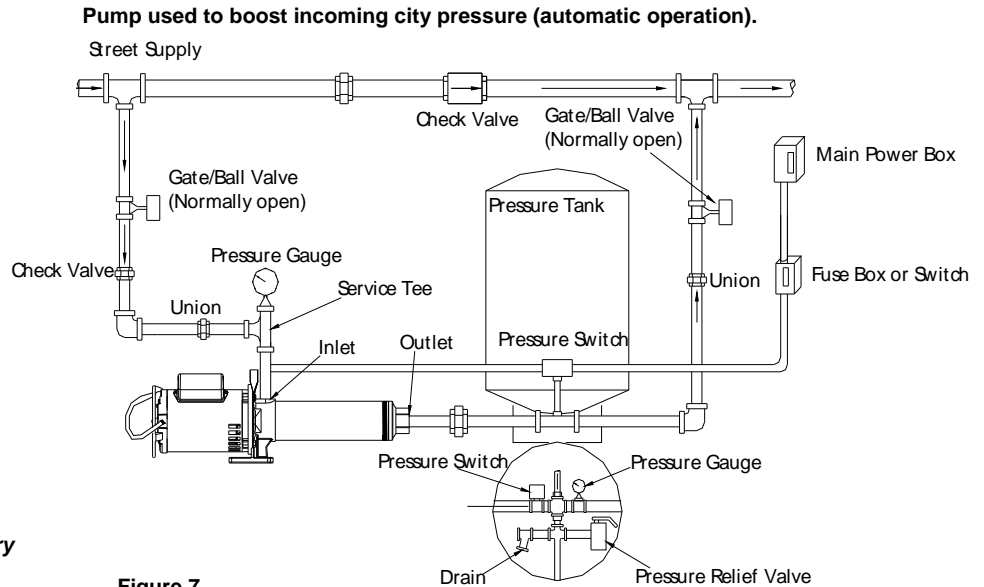

Figure 7
1. Refer to Figures 7, 8, 9 and 10 on page 7 and 8 for typical installations.
1. On pressure boost systems, locate the pump so that there will always be a positive supply of water to the pump (See Figure 7, 8 and 9).
3. Install a check valve as shown in Figure 7. Be sure check valve flow arrows point in the direction of water flow.
5. A pressure gauge installed in the inlet pipe close to the suction port, (See Figure 7) will show if enough water is being supplied to the pump. See Operation Section-Priming, Pressure Boost Installations.
Priming is automatic when pump is connected to a pressure source such as a hydrant or city main (See Figure 7, 8 & 9 on page 7 and 8).
3. If you installed a pressure gauge at the pump inlet, a reading of 2 psi minimum should show whenever the pump is in operation (See Figures 7, 8 & 9 on page 7 and 8).